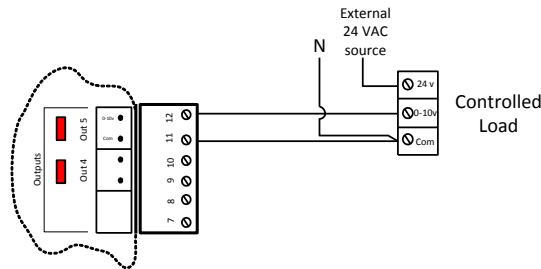

Figure 9: Connecting the analog output (external power)
- 2) The C1000 only provides the control signal to the load, which is powered by an external source (see Figure 9)